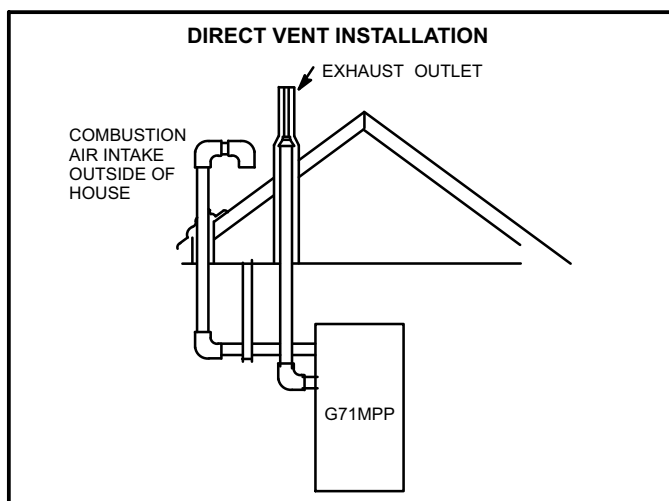

FIGURE 2
**NOTE** - In Direct Vent installations, combustion air is taken from outdoors and flue gases are discharged outdoors. See figure 2 for applications including roof termination.